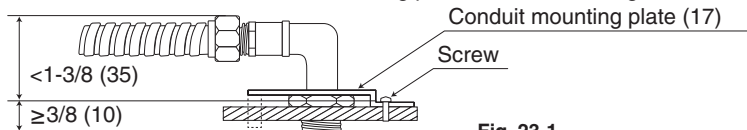
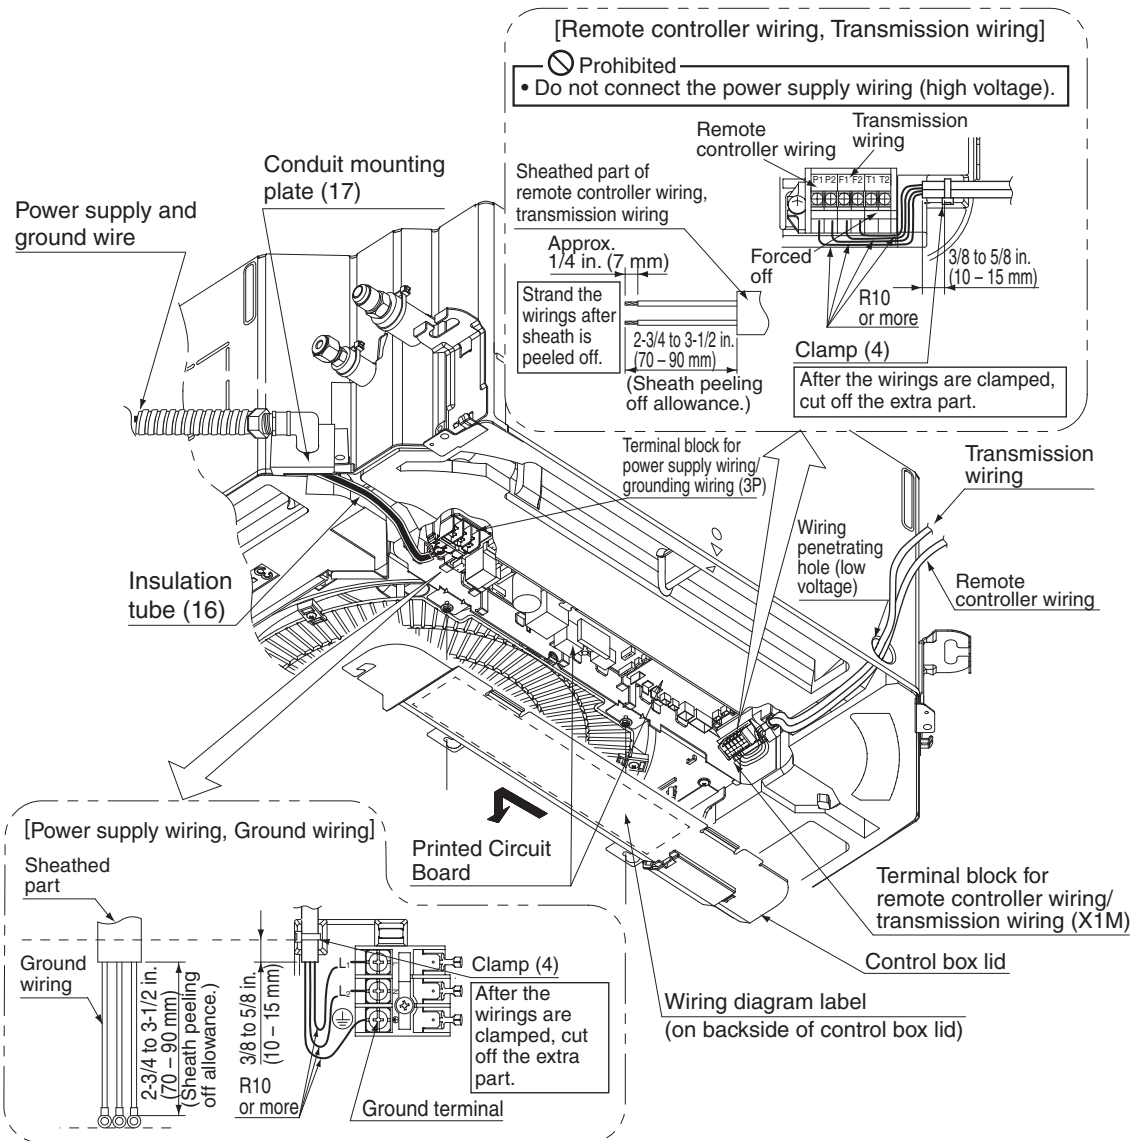

Fig. 23-1
Fig. 23-2
Pass the power supply wire through the attached insulation tube (16) between the outlet of conduit and the power supply terminal, and bind them together with the attached clamp (4). (Refer to Fig. 23-2)
Use a pair of conduit mounting plates (17) to connect a conduit to the unit as shown Fig. 23-1. After connecting the power supply wiring to [L₁ · L₂] on the power supply terminal block (X2M) and the ground wiring to the ground terminal, clamp them near the terminal block using the attached clamp (4). (Refer to Fig. 23-2)
Pull the wiring through the wiring penetrating hole (low voltage). After connecting the remote controller wiring to [P1 · P2] and the transmission wiring to [F1 · F2] on the terminal block (X1M), clamp them near the terminal block using the attached clamp (4). (Refer to Fig. 23-2)
- Use a 90° elbow type of conduit with dimensions **Fig. 23-1** to prevent it from hitting the swing motor housing of decoration panel.